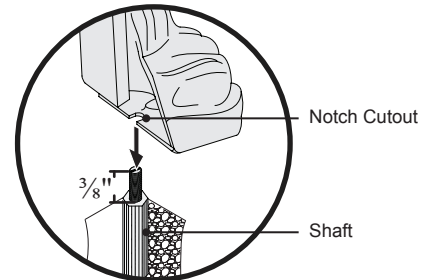

Figure 5. Anchoring the Slipper Bathtub
- 2 Slowly lower the unit down onto the ground, making sure that the shafts and notch cutouts align properly (Figure 5).